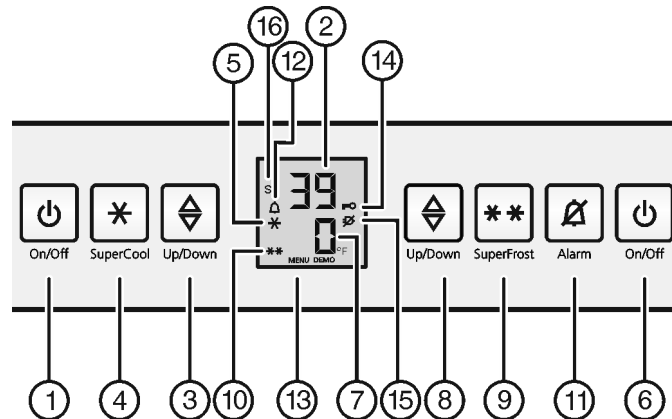

Fig. 3
- ▶ Press the Freezer compartment On/Off button *Fig. 3 (6)*.
- ▶ Press the Fridge compartment On/Off button *Fig. 3 (1)*
- ▶ Activate setting mode: Press SuperFrost button *Fig. 3 (9)* for about 5 seconds.
- ▷ The Menu symbol *Fig. 3 (13)* lights up.
- ▶ Use the Set freezer compartment button *Fig. 3 (8)* to select °.
- ▶ To confirm: Briefly press SuperFrost button *Fig. 3 (9)*.
- ▶ Select °F oder °C with the Freezer compartment set button *Fig. 3 (8)*.
- ▶ To exit setting mode: Press Freezer compartment On/Off button *Fig. 3 (6)*.
- ▶ To activate setting mode: Press and hold the SuperFrost button *Fig. 3 (9)* for approx. 5 seconds.
- ▷ In the display, the Menu Symbol *Fig. 3 (13)* is displayed.
- ▶ Use the Set freezer compartment button *Fig. 3 (8)* to select c.
- ▶ Confirm briefly by pressing the SuperFrost button *Fig. 3 (9)*.
- ▷ The Child Safety symbol *Fig. 3 (14)* lights up on the display.
- ▶ Press the freezer compartment On/Off button *Fig. 3 (6)* briefly.
- Press Alarm button *Fig. 3 (11)*.
At the same time, the Alarm symbol *Fig. 3 (12)* will flash.